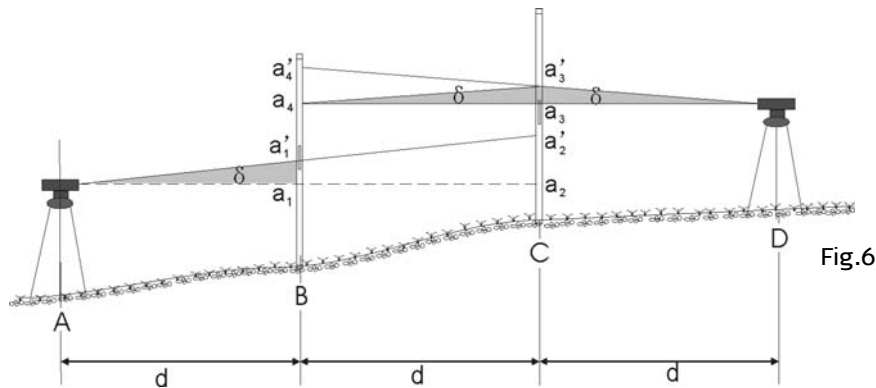

Fig.6 Testing the horizontality of the line of sight
7.3.1 Testing (Fig.6)
7.3.2 Adjusting (Fig.6 and Fig.7)